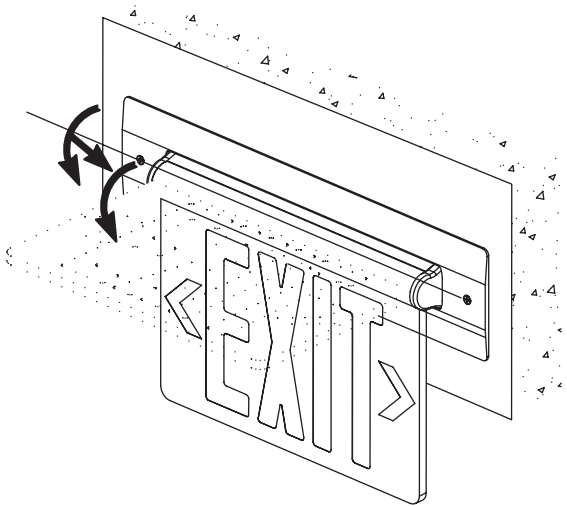

FIGURE 8
- 2. Recessed ceiling mounting rotated 90° becomes recessed wall mounting (Figure 8).